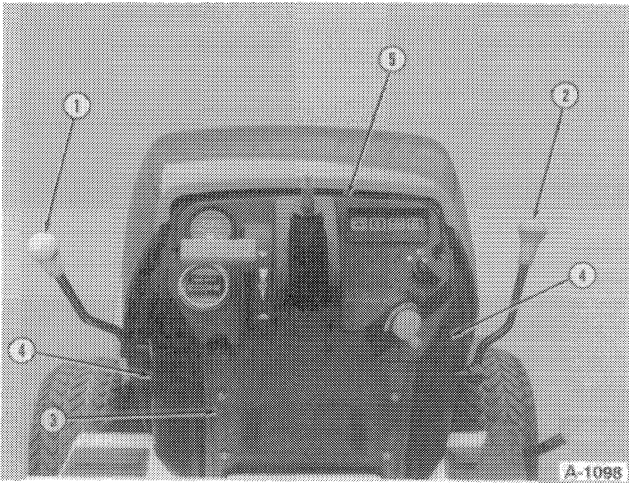

FIGURE 6-4
5. Remove the roll pins from the speed control and PTO control levers, 1, and 2, and remove the levers, Figure 6-4.
8. Disconnect the wiring harness connectors, throttle grip, 6, and instrument panel, 5, Figure 6-4.